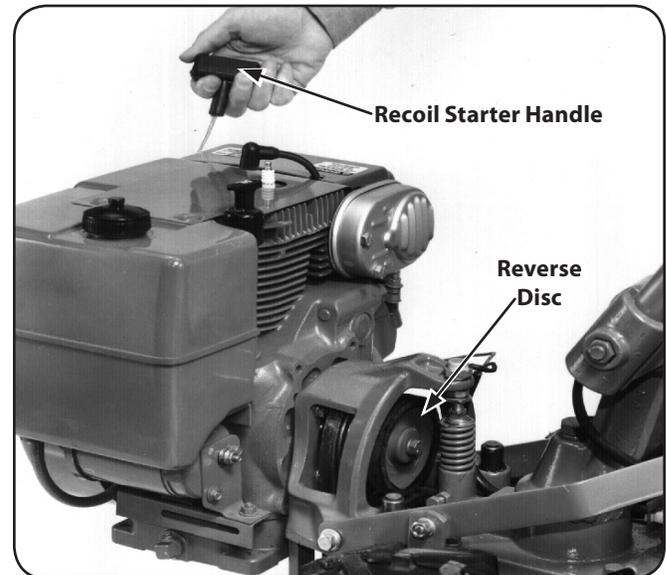

Figure 6-20
2. Place Wheels/Tines/PTO Drive Lever in NEUTRAL. Briefly pull out the engine recoil starter handle while watching the reverse disc. The disc should turn, but lower pulley should not. See Fig. 6-20. If the reverse disc turns the lower pulley, or if it is located closer than  $\frac{3}{16}$ " to the pulley, reverse adjustment bolt should be adjusted upward. Moving the adjustment bolt upward will also solve problem of a tiller that goes into REVERSE on its own.